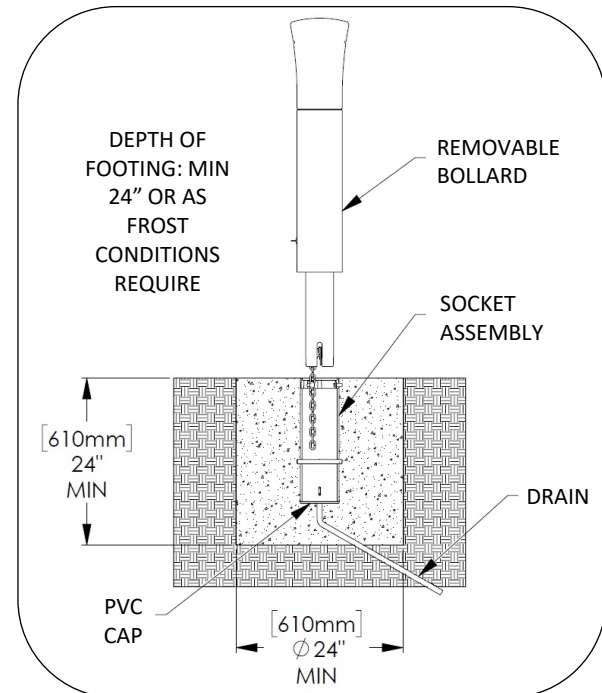

FIG. 2 - FOOTING DETAIL FOR REMOVABLE BOLLARD
1. Excavate for socket footing and install drain (see Figure 2). Depth of socket is 1'-6". Footing depth is the responsibility of the installer and should comply with local and national building codes. Frost depth should be taken into consideration. Landscape Forms recommends 24" minimum depth to fully retain the socket.